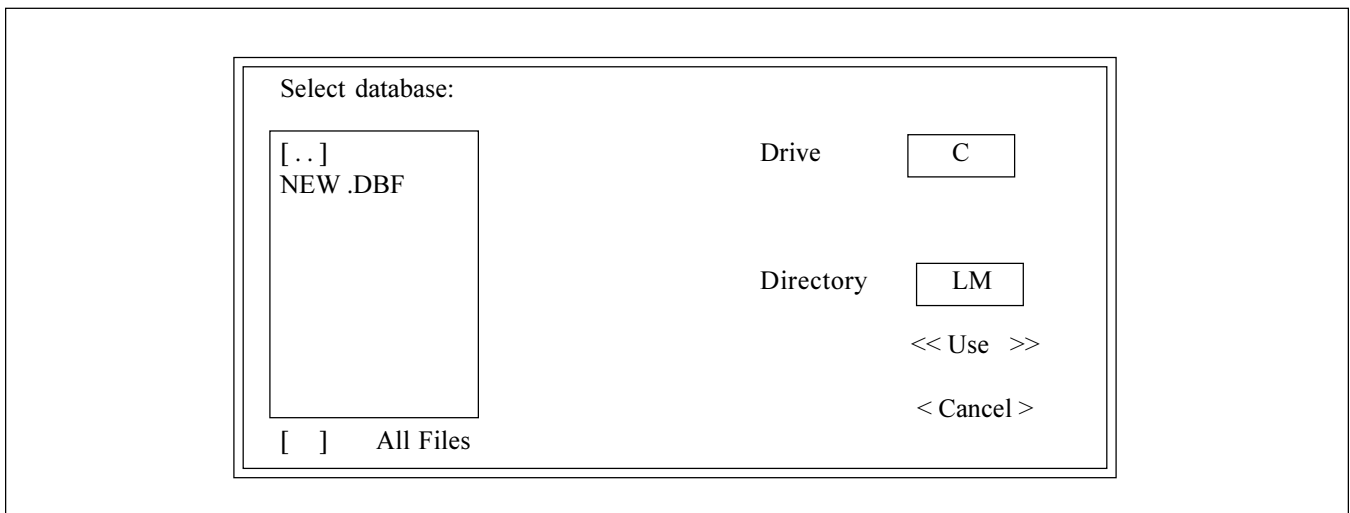

Figure 25 - Select File
6. The "Select File" option allows you to select the database file from which the tape graph files are saved, deleted, or viewed from the "View Graph" option. Figure 25 shows the screen display for the "Select File" option. All tape graph files are stored in the SAMPLES.DBF database until another database file is created.